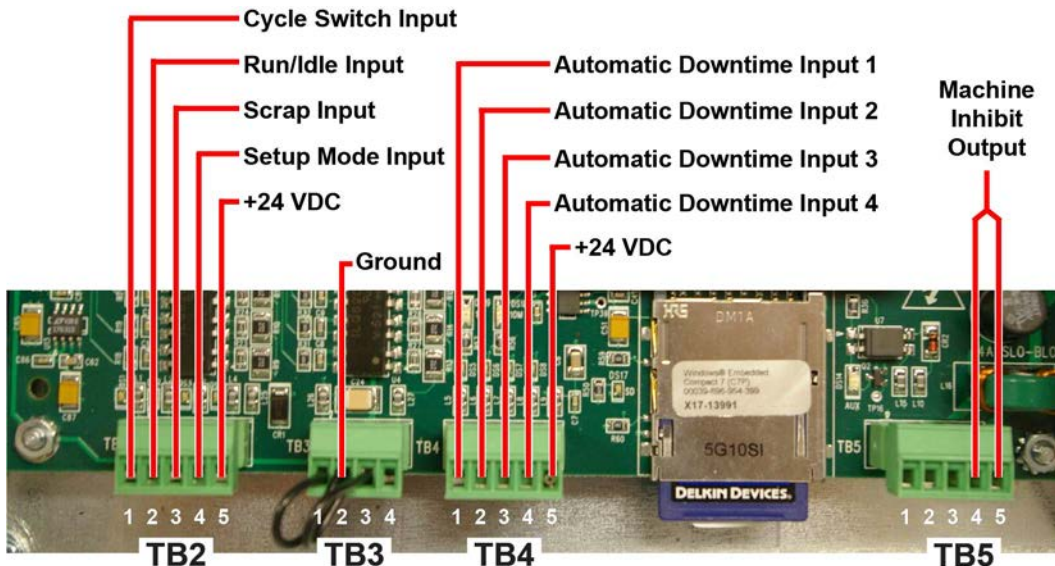

Figure 2-7. SMI 2 Input/Output Wiring
These wiring connections are made on the series of terminal blocks (connectors) labelled TB2, TB3, and TB4 located along the bottom edge of the left side of the SMI 2 control board (see Figure 2-7, page 33).
1. Connect one wire to input Pin 1 on connector TB2 (see Figure 2-7, page 33).
To wire a Run/Idle contact input using a dry contact, connect one wire to input Pin 2 on connector TB2 and the other wire to input Pin 5 on TB2 (see Figure 2-7, page 33).
Wire the Scrap input using a dry contact, normally open momentary switch. Connect one wire to input Pin 3 on connector TB2 and the other wire to Pin 5 on connector TB2 (24 VDC) (see Figure 2-7, page 33).
To wire a Setup Mode input, connect one wire to input Pin 4 on connector TB2 and the other wire to Pin 5 on connector TB2 (see Figure 2-7, page 33).
To make wiring connections for the machine inhibit output circuit, do the following, referring to Figure 2-7, page 33, and Figure 1, SFC Machine Interface 2 Wiring Diagram, at the end of this manual. Make sure to number all wires in a way consistent with your machine's electrical prints.
3. Connect the wires for the machine inhibit circuit to pins 4 and 5 on connector TB5 (see Figure 2-7, page 33), and Figure 1, SFC Machine Monitor 2 Wiring Diagram, at the end of this manual.). This output is a dry-contact (4A Max @ 240 VAC or 30 VDC).